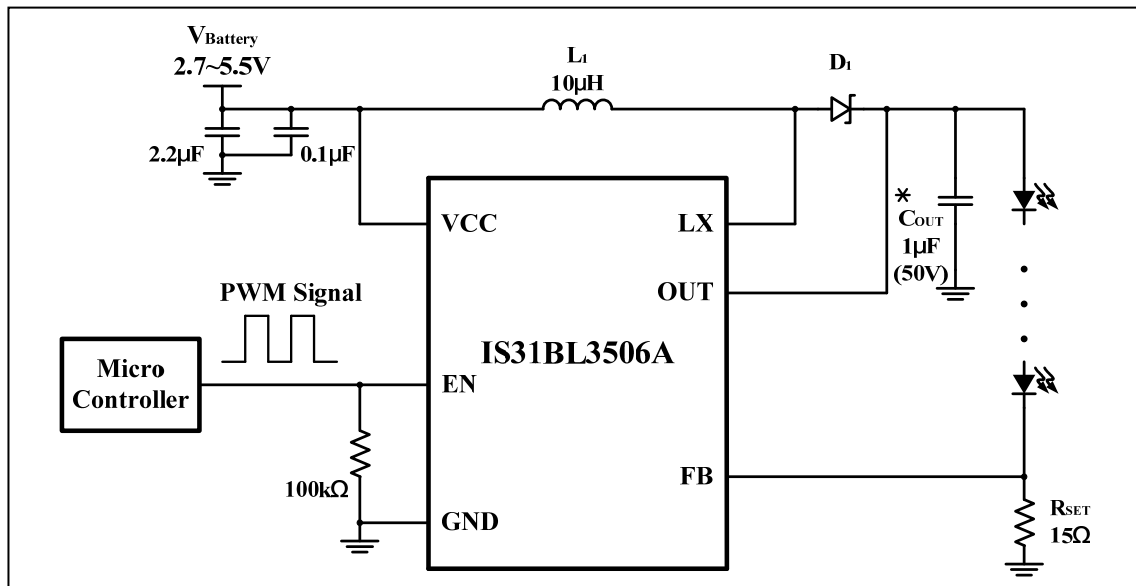

Figure 1 Constant current white LED driver using PWM at the EN pin to control intensity
When the IS31BL3506A is used for LED driving applications (Figure 1), the LED current flows through the external feedback resistor R_{SET} to regulate the LED current. The internal feedback regulation point is 0.3V. The maximum LED current may be calculated by the following equation, (1).
The EN pin of the IS31BL3506A can accept a PWM signal to implement LED dimming (Figure 1). LED current may be computed using the following equation, (2).